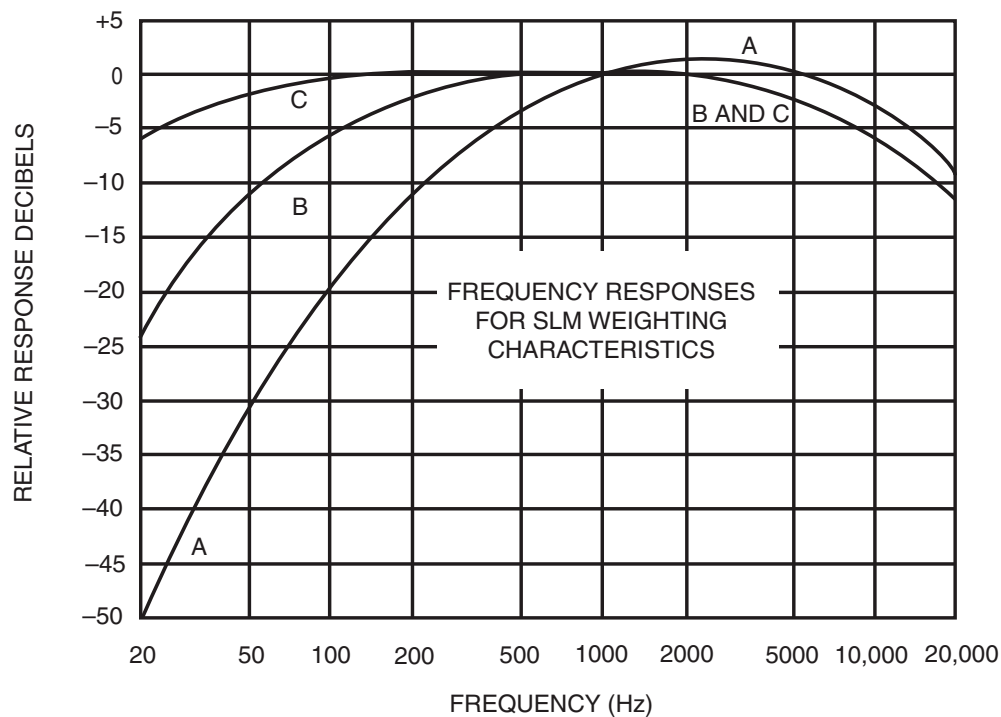

Figure 3-1. A, B and C Weighted Responses of the Sound Level Meter
As indicated in Figure 3-1, the “B” and “C” weighting curves include more of the low frequency information. Thus, at any level, measurements taken with various weightings can be compared in determining the frequency content of the noise. This is done by indicating the level dB, accompanied by the weighting letter notation “A”, “B” or “C”, preferable in parenthesis; e.g., the 100 dB (A), etc.